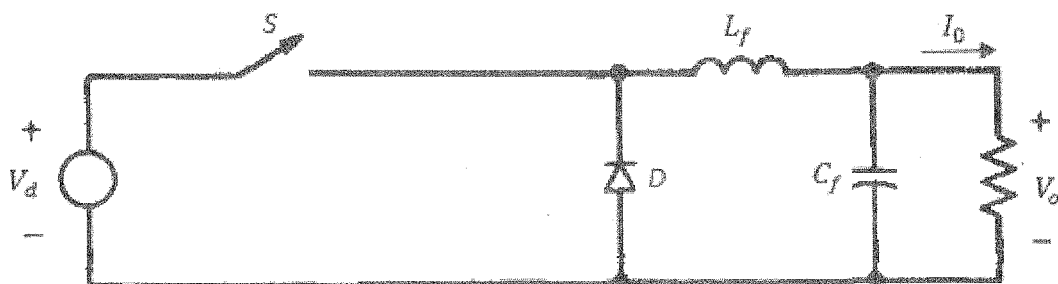

Figure Q2 : Step down DC-DC converter
- Q2 a) Figure Q2 shows the circuit diagram of a step down DC-DC converter which converts 12 V supply voltage to 1.5 V output voltage. The current drawn by the load is 20 A.
- Modify the circuit shown in Figure Q2 to achieve the Zero Voltage Switching (ZVS) using the series resonant circuit concept.